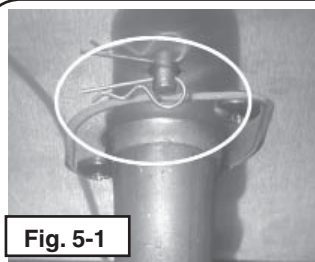

Fig. 5-1
- c. Reach up under the burner support and remove the burner retaining clip (see Fig. 5-1), located at the rear of the burner pipe.